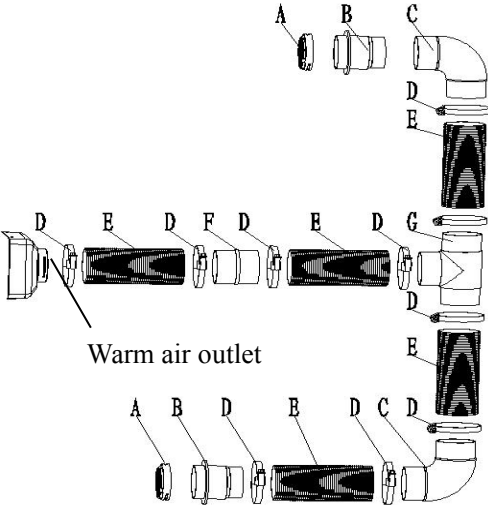

Fig. 15
- 4.3.7 オプションのダクト部品（図15）
Users can choose the air duct fittings according to the situation. Please refer to Fig.15.